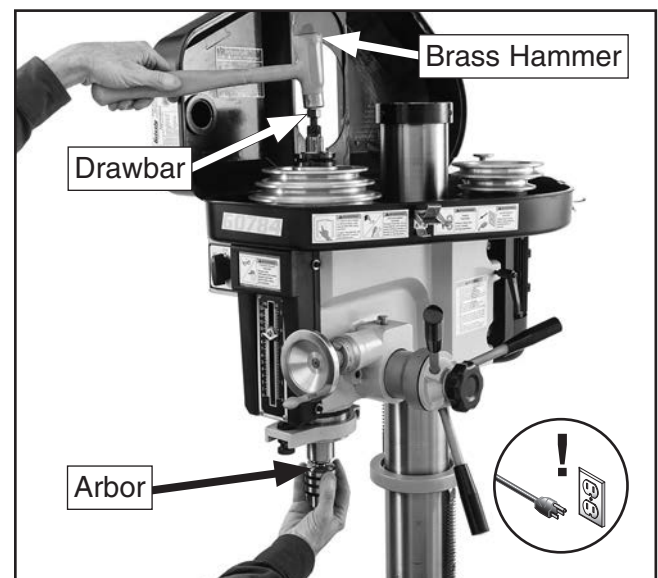

Figure 18. Tapping top of drawbar with drawbar nut already loosened to remove tooling.
3. Hold tooling to prevent it from dropping completely out of machine. Tap on top of drawbar with a brass hammer to loosen collet/arbor from spindle, as shown in **Figure 18**.